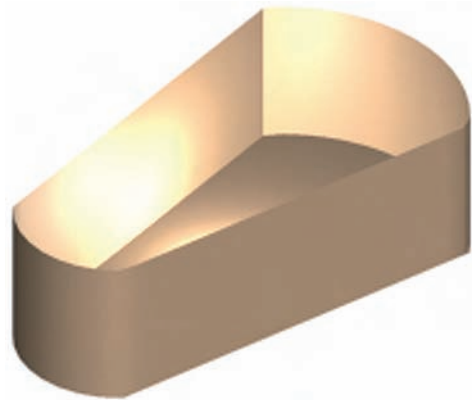

Fig. 19.26 Exercise I – first part
1. Construct suitable polylines to sizes of your own discretion in order to form the two surfaces to form the box shape shown in Fig. 19.26 with the aid of the **Rulesurf** tool. Add lighting and a material and render the surfaces so formed.